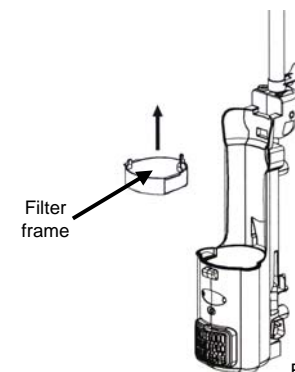

Fig. 21
1. Hold the filter frame and lift to remove from the vacuum. (Fig. 21)